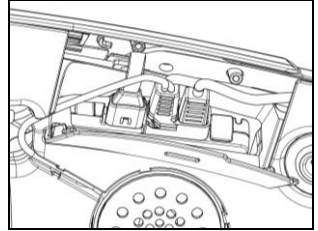

Fig. 8
- Gently position the connector in its seat until it is all the way in (Fig. 8).